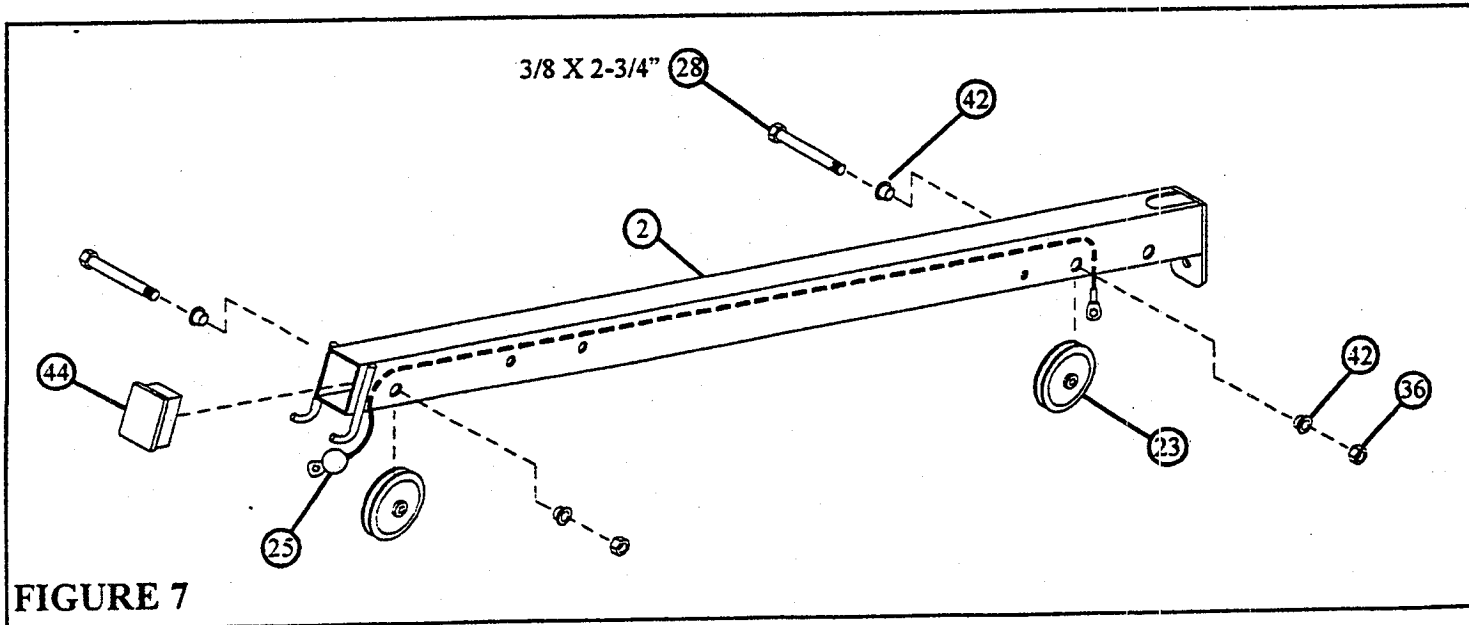

FIGURE 7
- Insert one 3 X 2" END CAP (44) into the TOP BOOM (2) as shown in FIGURE 7.
- Route end of CABLE (25) (WITHOUT BALL) through the TOP BOOM (2) as shown in FIGURE 7.
- SECURELY assemble two 3-1/2" PULLEYS (23) to the TOP BOOM (2) using two 3/8 X 2-3/4" BOLTS (28), four 3/8" FLANGE SPACERS (42), and two 3/8" LOCKNUTS (36). See FIGURE 7. (NOTE: BEFORE TIGHTENING, MAKE SURE THE CABLE (25) IS IN THE GROOVE OF THE PULLEYS.)